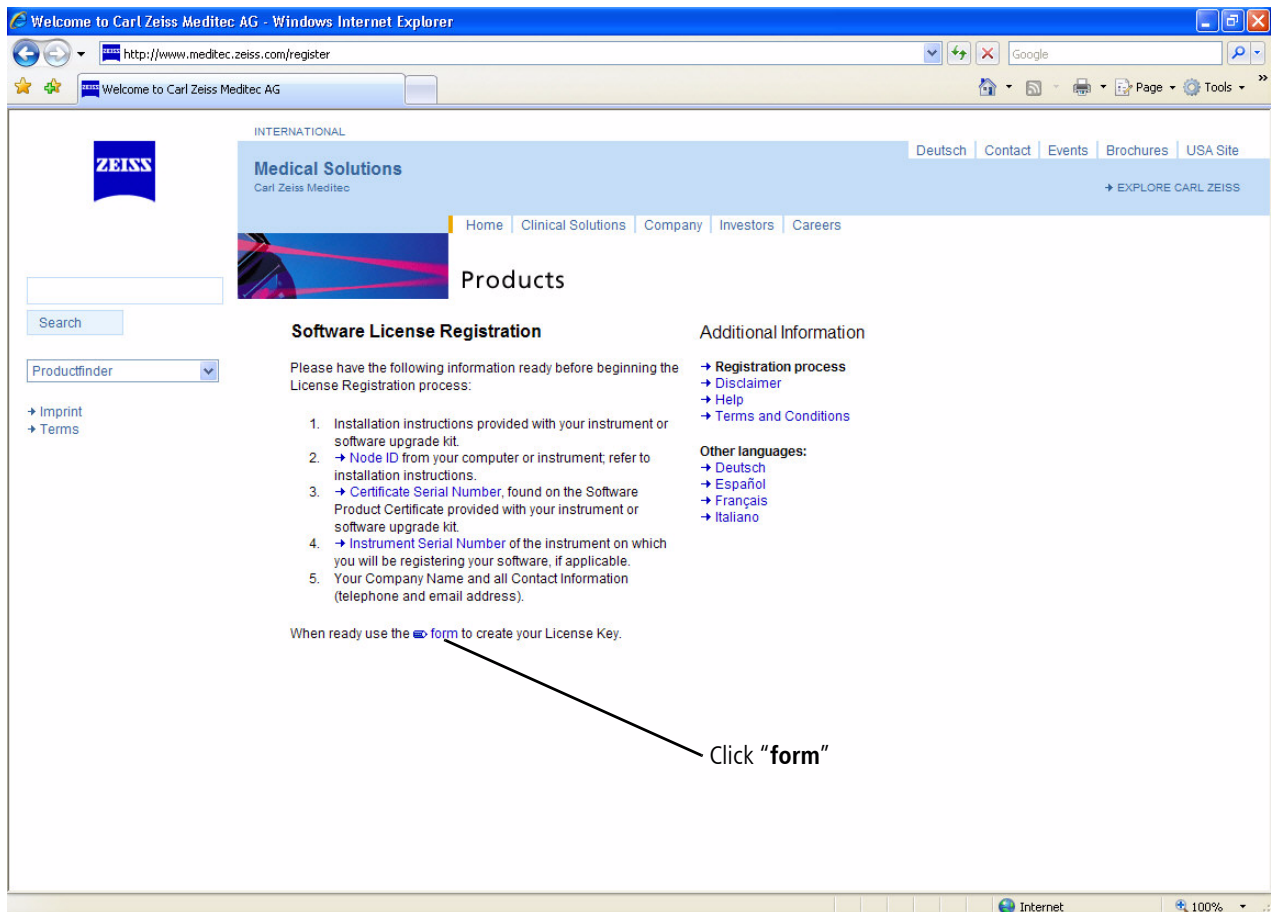

Figure I-6: Carl Zeiss Meditec Software License Registration Page on the Internet
6. Go to the bottom of the page, where it says: “When ready use the form to create your License Key” and click on the word “form” (See Figure I-6 below).